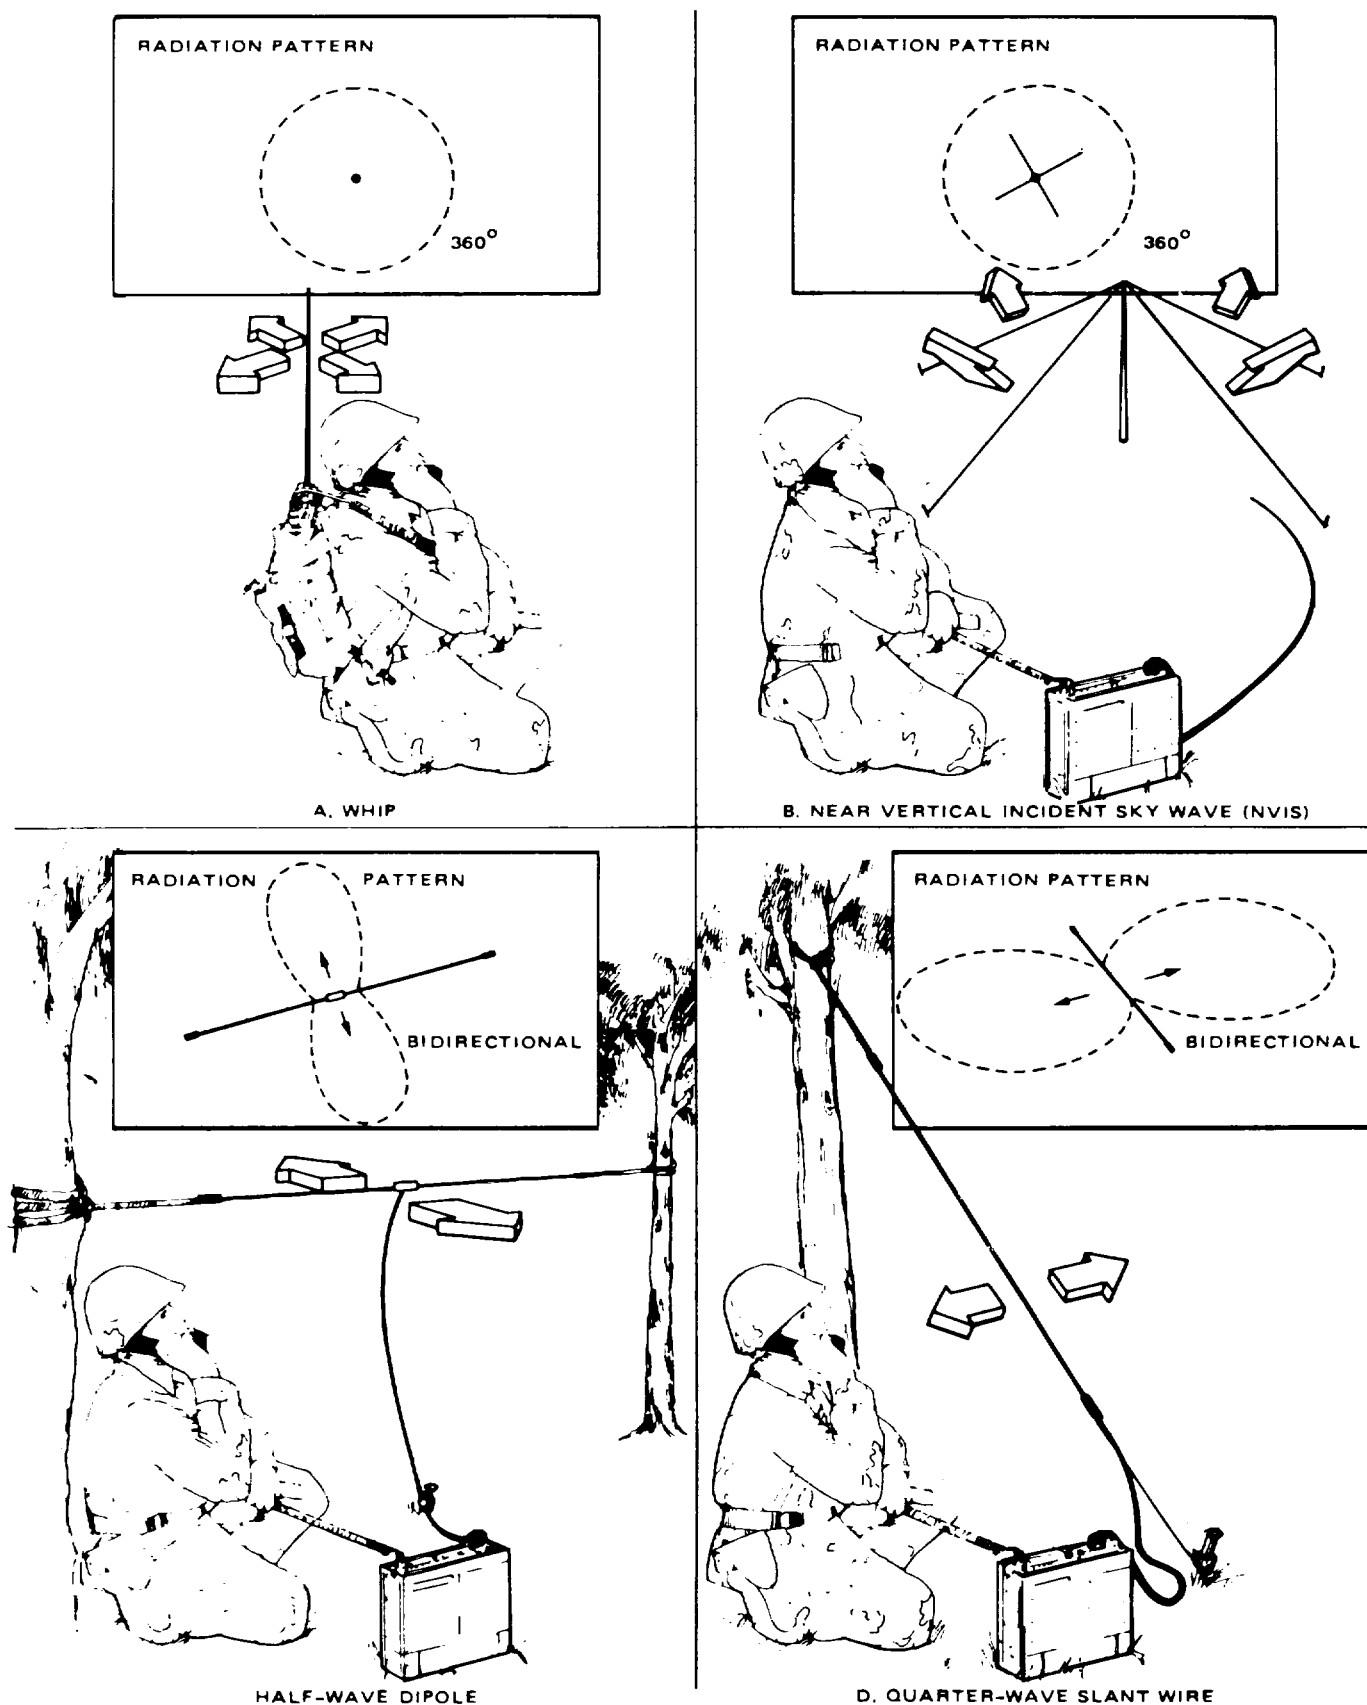

Figure 2-2. Antennas for Use With the Radio Set
**2-19.** The readability and effectiveness of radio communications in the high frequency (HF) range is dependent on several factors..
**2-21. ANTENNA SELECTION (Figure 2-2).**